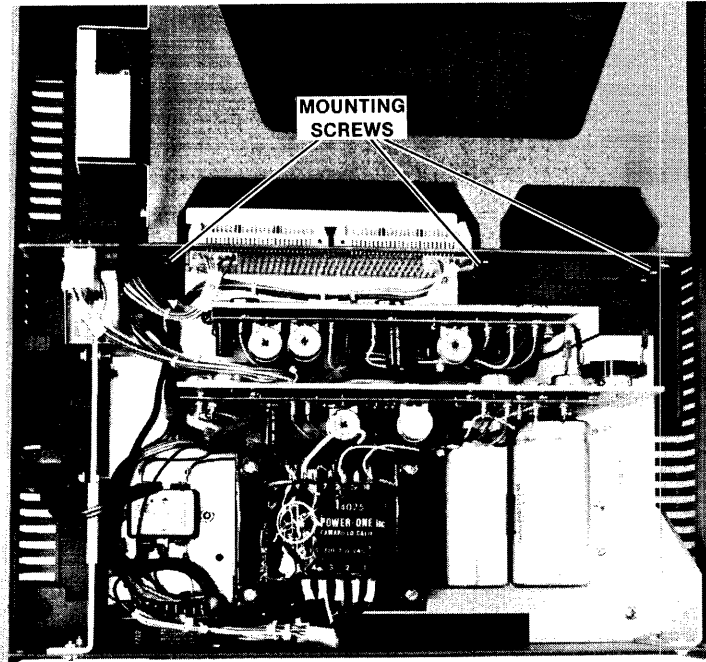

Fig. 4-23 Expansion Chassis Mother Board Installation
9. Install the expansion chassis mother board as shown in Figure 4-23.